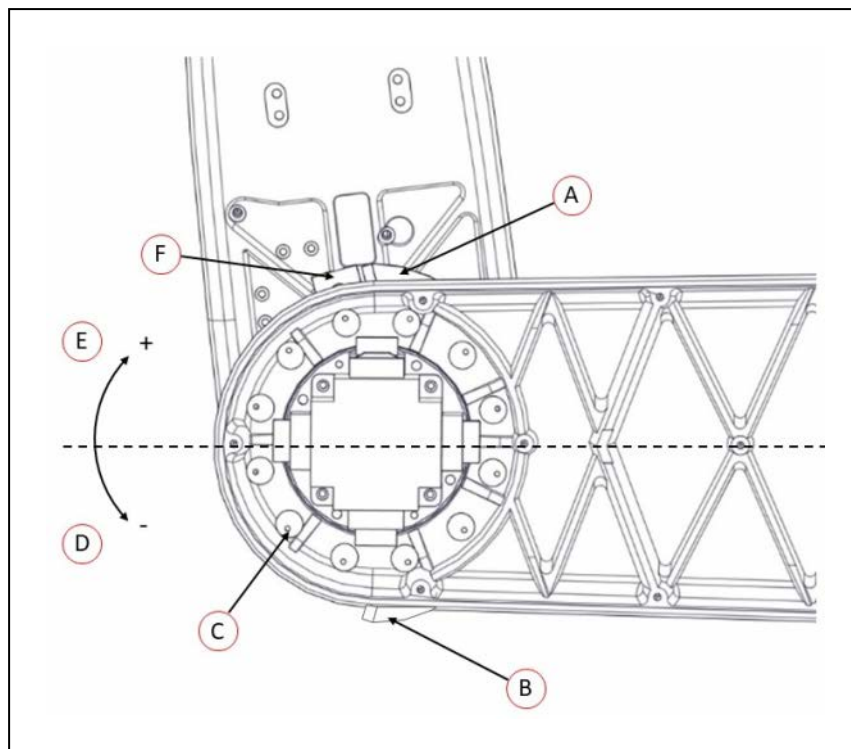

Figure 5-16. Screw Locations for Joint 2 Adjustable Hardstops (as seen from below)
1. Slide the two adjustable hardstop plates into the space between inner and outer links. Refer to the following figure to see the location for installation. Looking up at the inner link from underneath, align the holes in the plates with the holes in the inner link. Refer to Figure 5-16. .